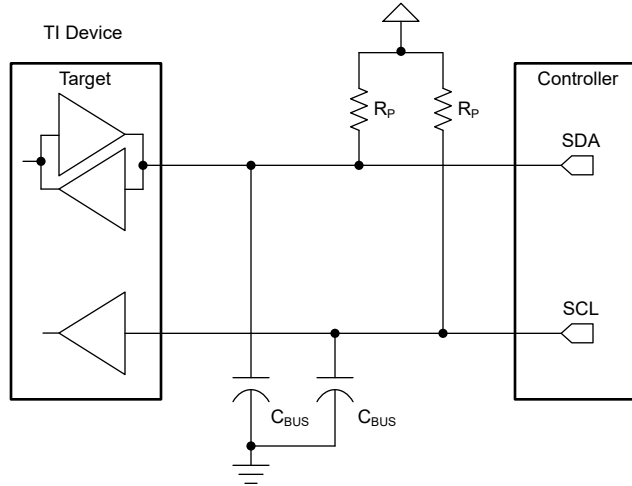

图 7-2. SDA / SCL Hardware Interface
**图 7-2** shows how the CDCE913 or CDCEL913 clock synthesizer is connected to the SDA/SCL serial interface bus. Multiple devices can be connected to the bus, but reducing the speed (400 kHz is the maximum) can be necessary if many devices are connected.